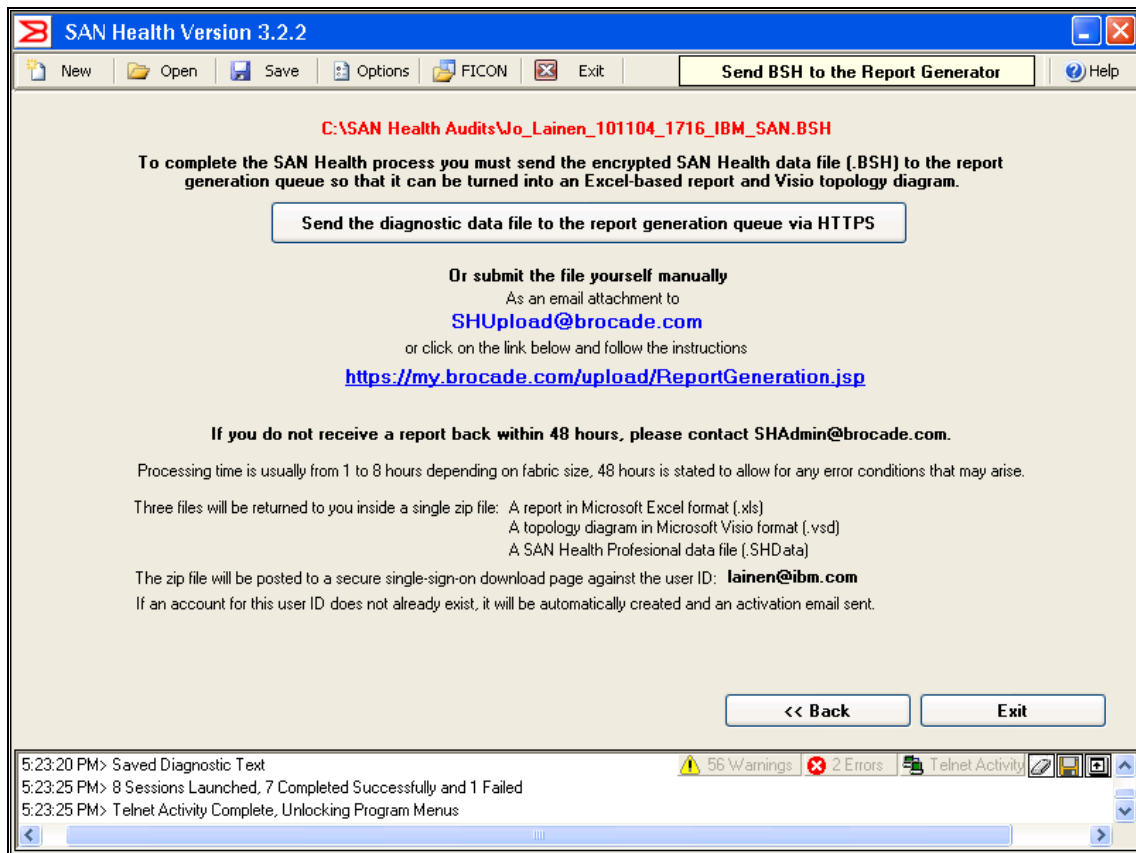

Figure 17-17 SAN Health Diagnostics Capture where to send the output
10. To complete the process, you have to send the encrypted SAN Health file (.BSH) to the Brocade report generator. You can either do that by clicking **Send to diagnostic data file to the report generation queue via HTTPS**, sending it as email attachment to SHUpload@brocade.com, or by uploading it manually to the Brocade URL as shown in Figure 17-17.